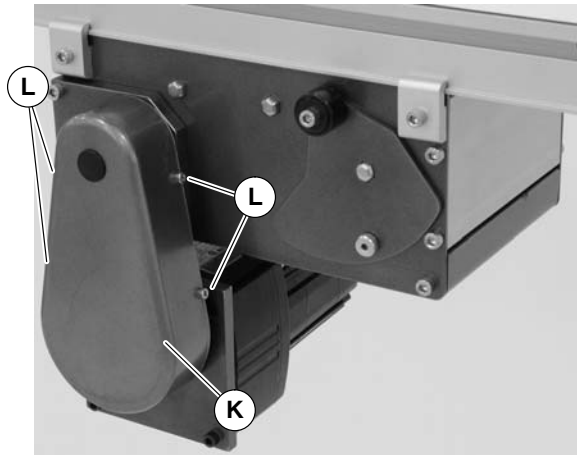

Figure 18
4. Remove four (4) screws (L of Figure 18) and remove cover (K).